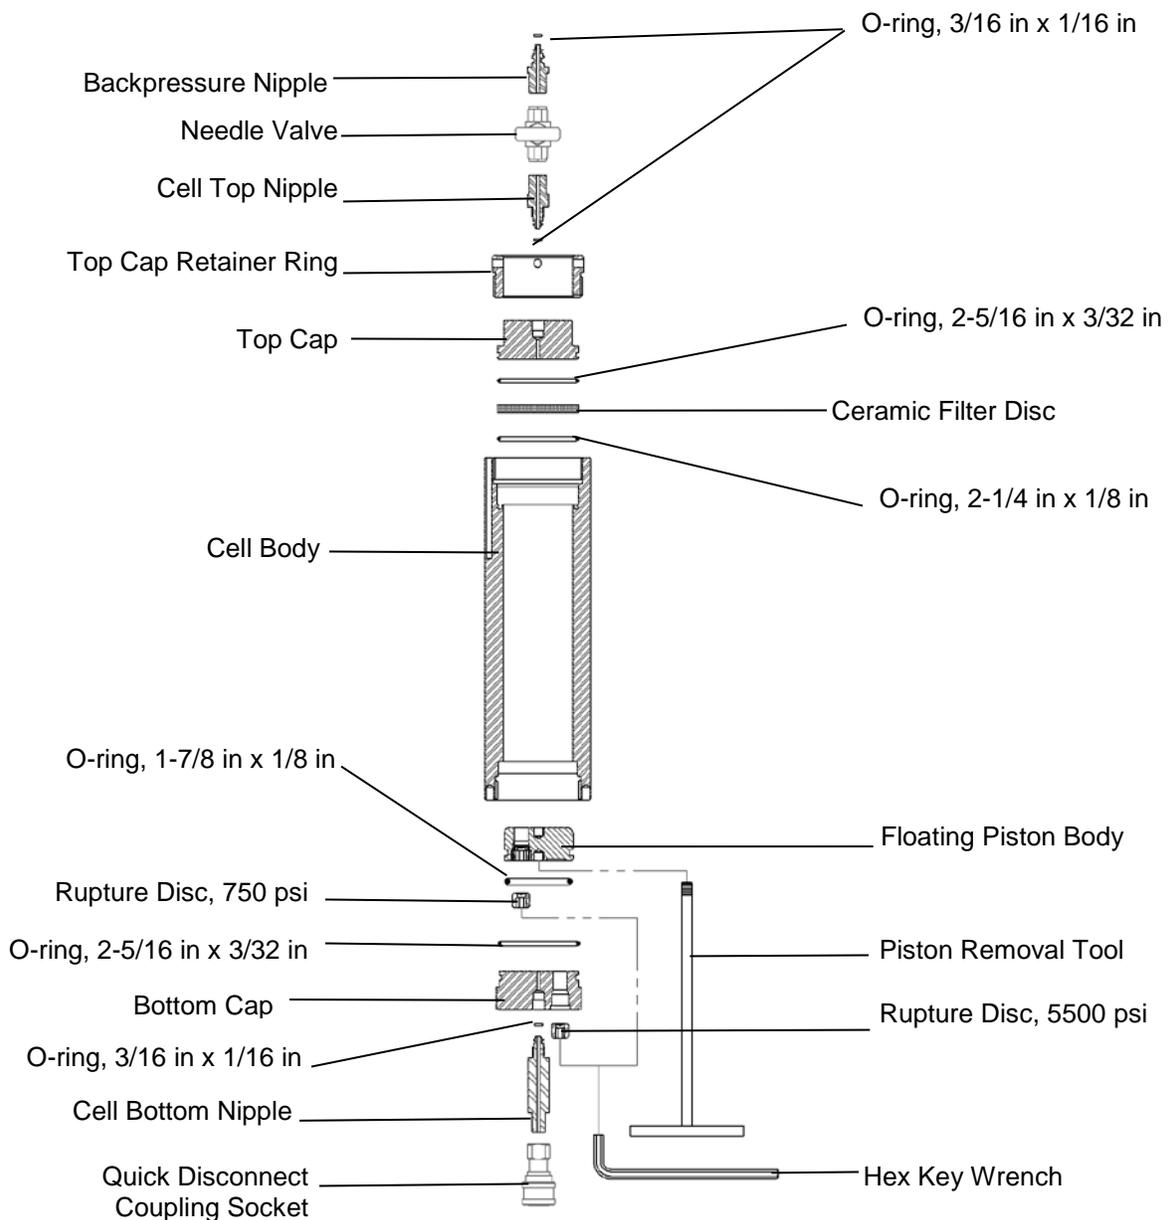

Figure 6-1 Cell Assembly Drawing
- Figure 6-1, a drawing of the disassembled cell